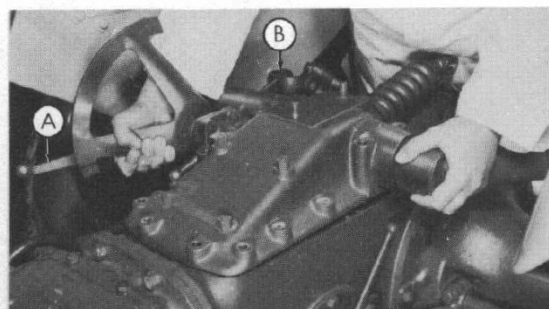

Fig. 2
- Step 7—Set the touch control lever in the down position (A-Figure 2).
- Step 8—Place the lift arms in the down position (B-Figure 2).
assembly upward with a slight forward motion as shown in Figure 2.